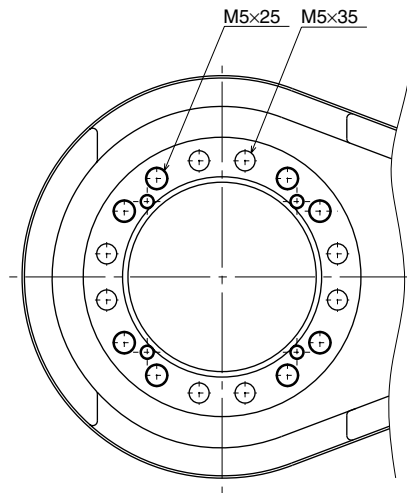
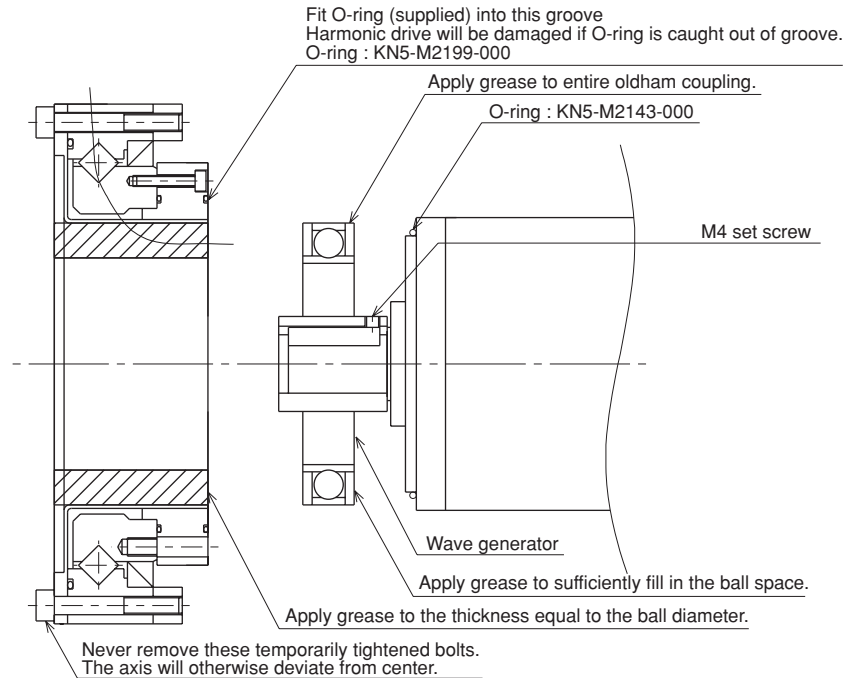

Fig. 5-39
Fig. 5-40
- 9) Remove the wave generator from the motor shaft. The wave generator is secured with an M4 set screw and keyway. (See Fig. 5-40.)
- 12) Remove the bolts (M5×25L 8 pieces and M5×35L 8 pieces) securing the X-axis harmonic drive. (See Fig. 5-39.)
- 14) Fit an O-ring (supplied with the harmonic drive) coated with harmonic grease into the O-ring groove on the new harmonic drive. (See Fig. 5-40.) Apply small amounts of “Screw Lock” to the bolts (M5×25L 8 pieces and M5×35L 8 pieces) and tighten them to secure the harmonic drive from the backside of the base. (See Fig. 5-39.)
- 15) Apply harmonic grease to the new wave generator and flexible spline. See Fig. 5-40 for applying grease properly.
- 17) Fit the wave generator onto the motor shaft, and fully insert it against the motor. Then, apply small amounts of “Screw Lock” to the M4 set screw (1 piece) you removed earlier and tighten it to secure the wave generator onto the motor shaft. (See Fig. 5-40.)